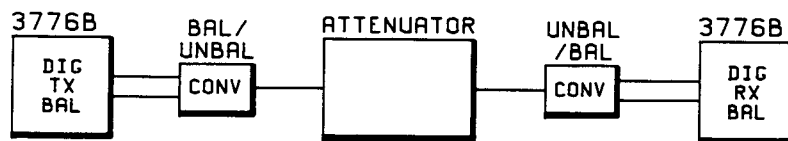

Figure 4-31 Digital Receiver Sensitivity Test Set-up
1. Connect the equipment as shown in Figure 4-31.